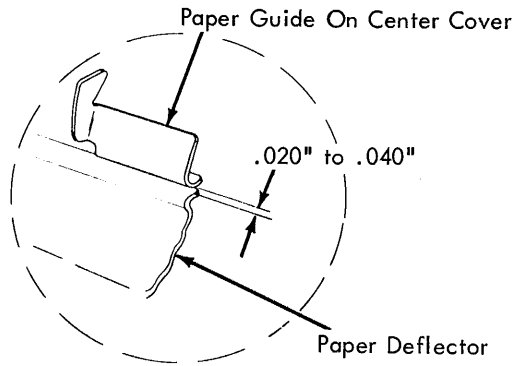

FIGURE 283. Shock Mounts
- c. The clearance between the paper guide and the deflector will be  $.020''$  to  $.040''$  (Fig. 283).